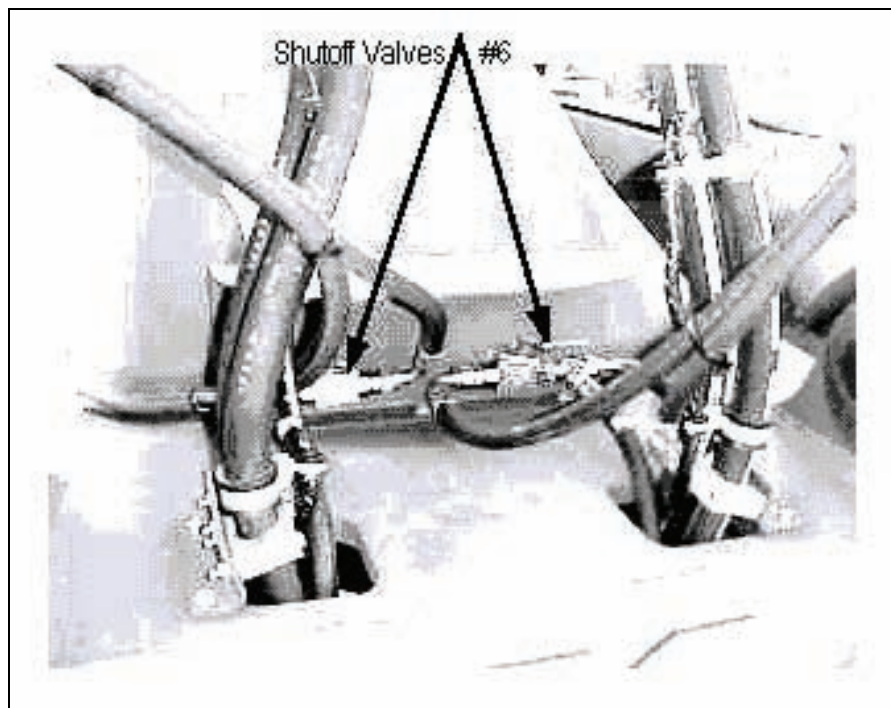

Figure 3-153. Opening Both Shutoff Valves #6
- p. At front of vehicle, open both shutoff valves #6 slowly and at the same time the tophandler should now be resting on dolly wheels in floating position (see Figure 3-153).